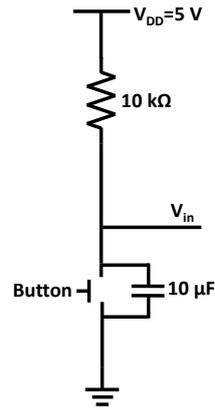

Fig. 4: Switch Circuit
- 4) Construct the monostable multivibrator you designed in your preliminary work. Connect a push button to input of the circuit which is connected to VDD by default and connected to GND when pushed. The switch circuit is shown in Fig. 4. Note that, the aim of connecting capacitor parallel to switch is to prevent unwanted pushes at one time.